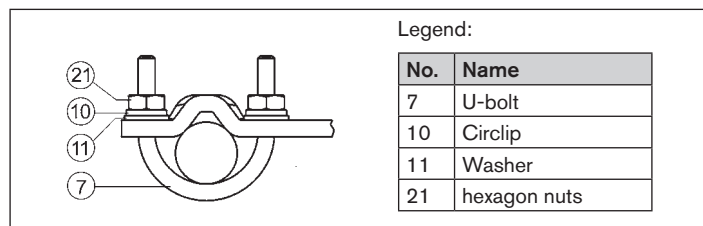

Fig. 30: Fit mounting bracket to columnar yoke
- Attach mounting bracket to the columnar yoke with the U-bolt ⑦, circlips ⑩, washers ⑪ and hexagon nuts ⑫ (see "Fig. 30").